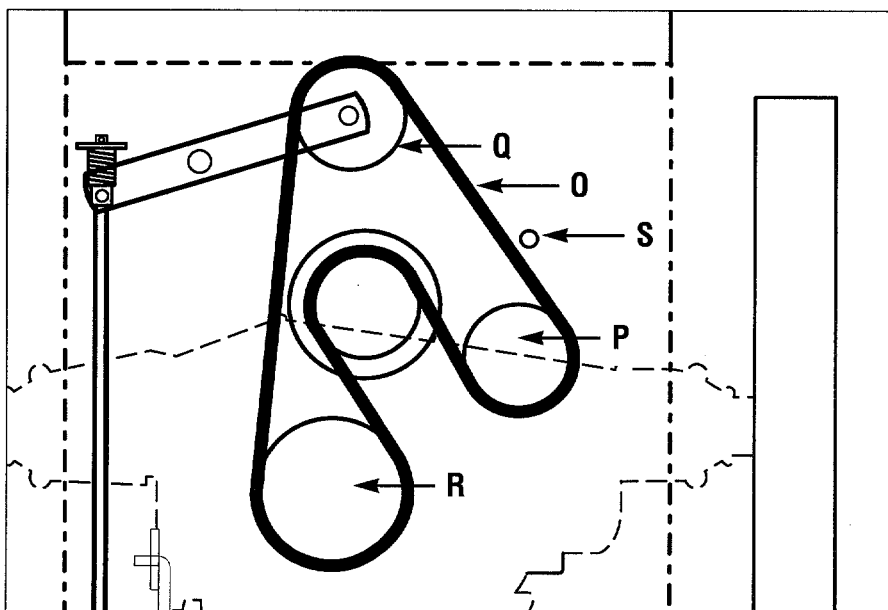

Figure 5-11: Wheel drive belt replacement.
4. Locate wheel drive belt (O, Figure 5-11) and remove it from top sheave of engine sheave, back-sided idlers (P and Q) and transmission sheave (R).-
5. Install new belt shown in Figure 5-11. Belt must be installed "inside out." "V" side of belt lies against engine sheave only. Flat side of belt lies against transmission sheave (R) and back-sided idlers (P and Q).
6. Make sure belt is inside belt guide (S, Figure 5-11).